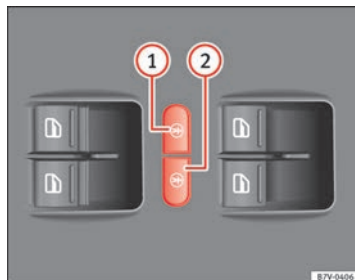

Fig. 51 In the driver door: electric child safety locks buttons
The electric child safety lock avoids opening and locking of the sliding door and its electric windows from the inside so that children cannot accidentally open the door while the vehicle is being driven. Using the left-hand side ⇒ Fig. 51 ① or right-hand side ② button, the childproof lock is activated on the left hand side or right-hand side respectively.